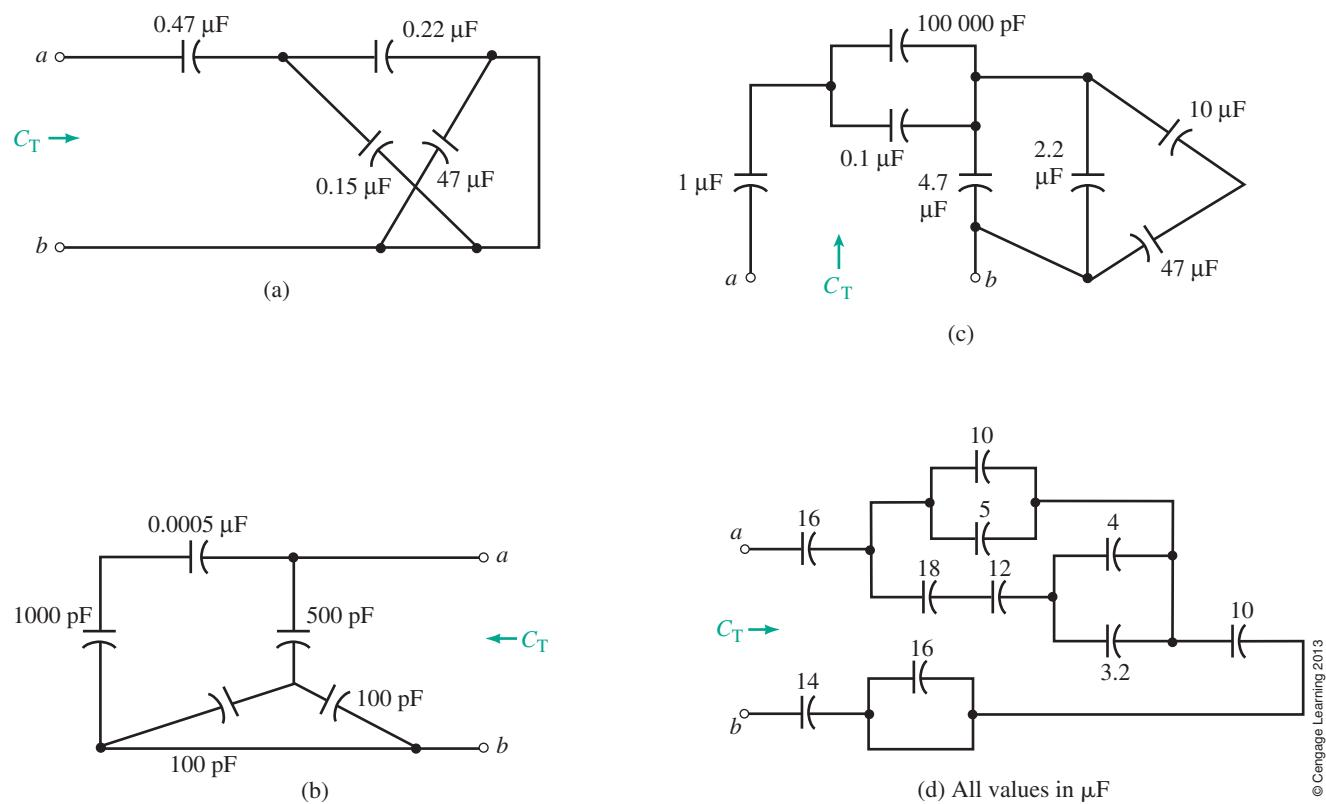

FIGURE 10-34
28. Determine total capacitance looking at the terminals for each circuit of Figure 10-34.